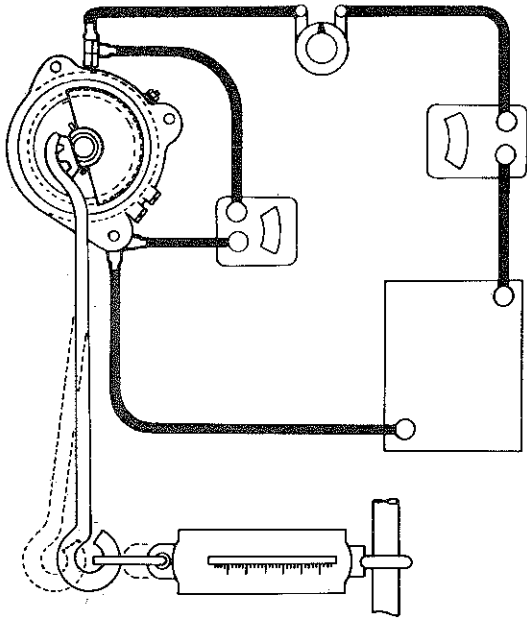

Figure IV-41. Starting Motor Lock-Torque Test
2. Starting Motor Lock-Torque Tests (figure IV-41).